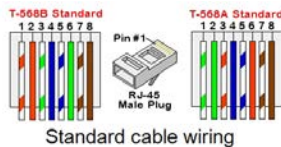

Figure 20: Standard cable wiring
- c. Insert the eight wires into an RJ45 connector (see *Figure 20*).
7. For the switch/router side, use a pre-crimped cable or use a crimper to prepare an RJ45 communication connector: Insert the eight wires into the RJ45 connector in the same order as above (see *Figure 20*).